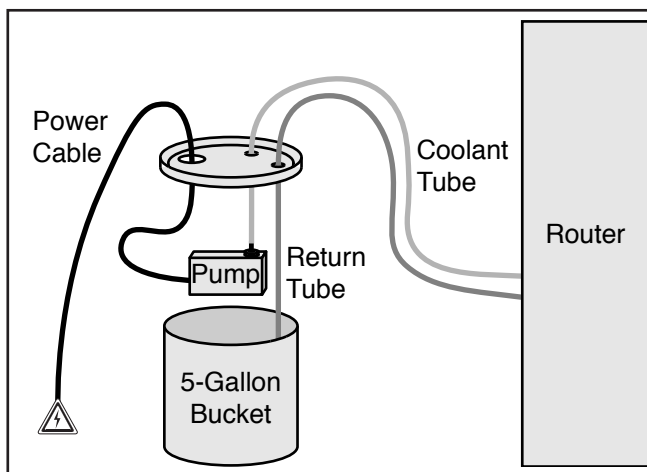

Figure 11. Connected cooling system.
2. Locate both coolant tubes under bed at rear of machine, then insert each coolant tube through $\frac{3}{8}$ " holes in bucket lid (see **Figure 11**).
3. Insert cooling pump plug and cooling pump power cord through 1" hole in lid (see **Figure 11**).
5. Place pump and return tube in 5-gallon bucket (see **Figure 11**).